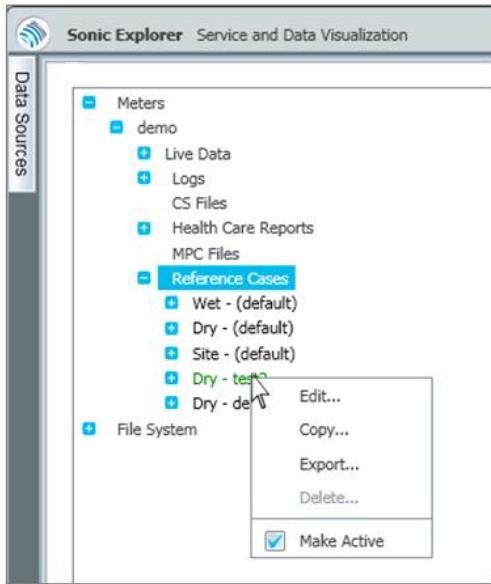

Figure 18-3 Editing a reference case
- ▶ Click **Reference Cases** and right-click on the desired reference case (**wet, dry, site**, etc.). A menu will be opened, as seen in Figure 18-3.
By clicking on **Edit** in the small drop down menu (seen in Figure 18-3) you can check the limits of that specific reference case which is described in ⇒ section 18.2 Change Limits in a Reference Case (p.62). If there are currently no reference cases suitable for your needs, it is possible to create a new one with live data from the meter. This process will be described in ⇒ section 18.3 Create a New Reference Case (p.63).
- ▶ Click on the **Data Sources** tab, followed by **Meters → Reference Cases → <desired case>** and **Edit**. (See Figure 18-3)